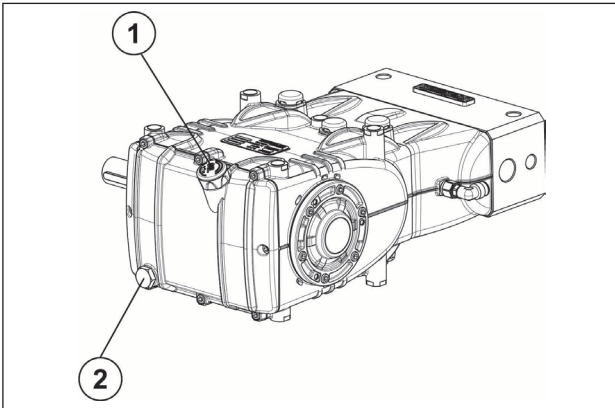

Fig. 1
To remove oil, you must remove: the oil dipstick, pos. ①, and then the plug pos. ②, (Fig. 1).